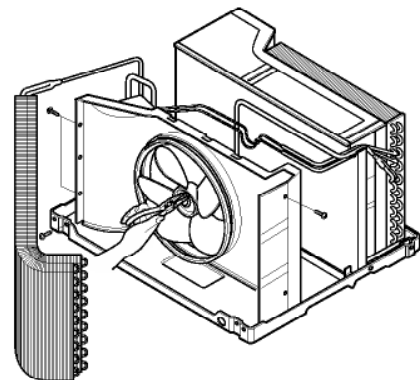

Figure 7
6. Remove the fan. (See Fig. 7)